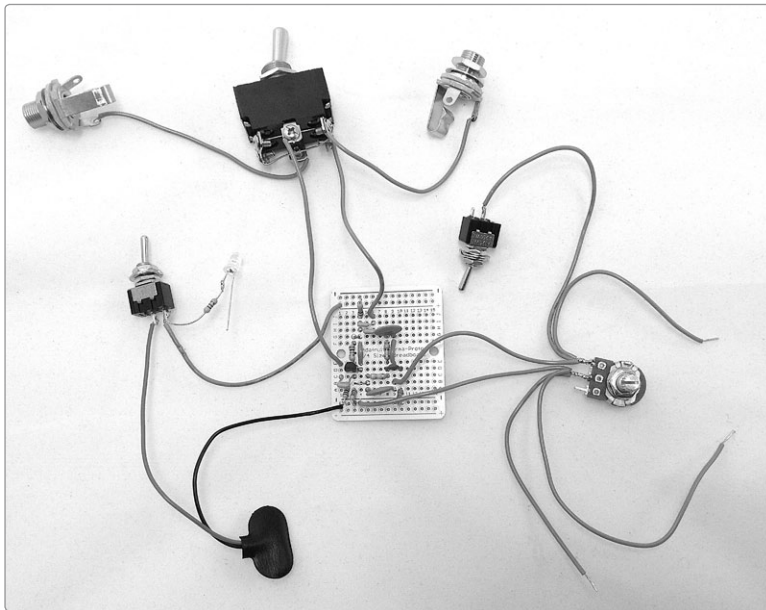

FIGURE 14-21: *Our circuit has power!*
- Step 18** Let's add power! Get out your power switch/LED assembly and connect the black wire from the battery clip to the leftmost hole on the ground. Connect the loose red wire from the switch to the power rail, just above the red line (labeled +), in the leftmost hole. Solder all of these, and your PCB should look like Figure 14-21.